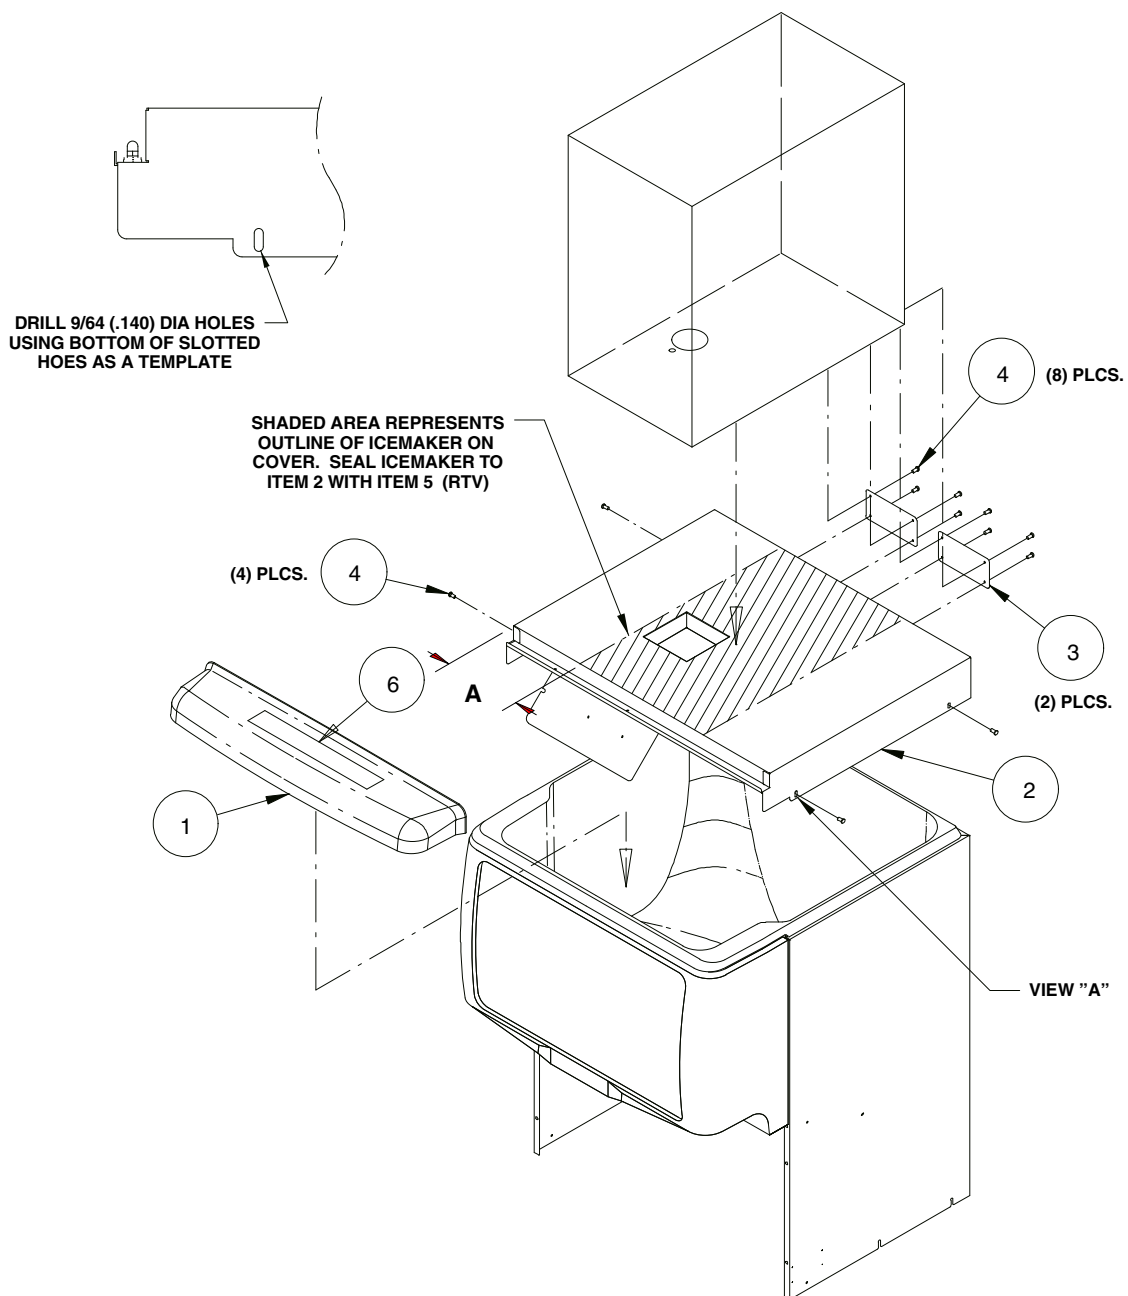
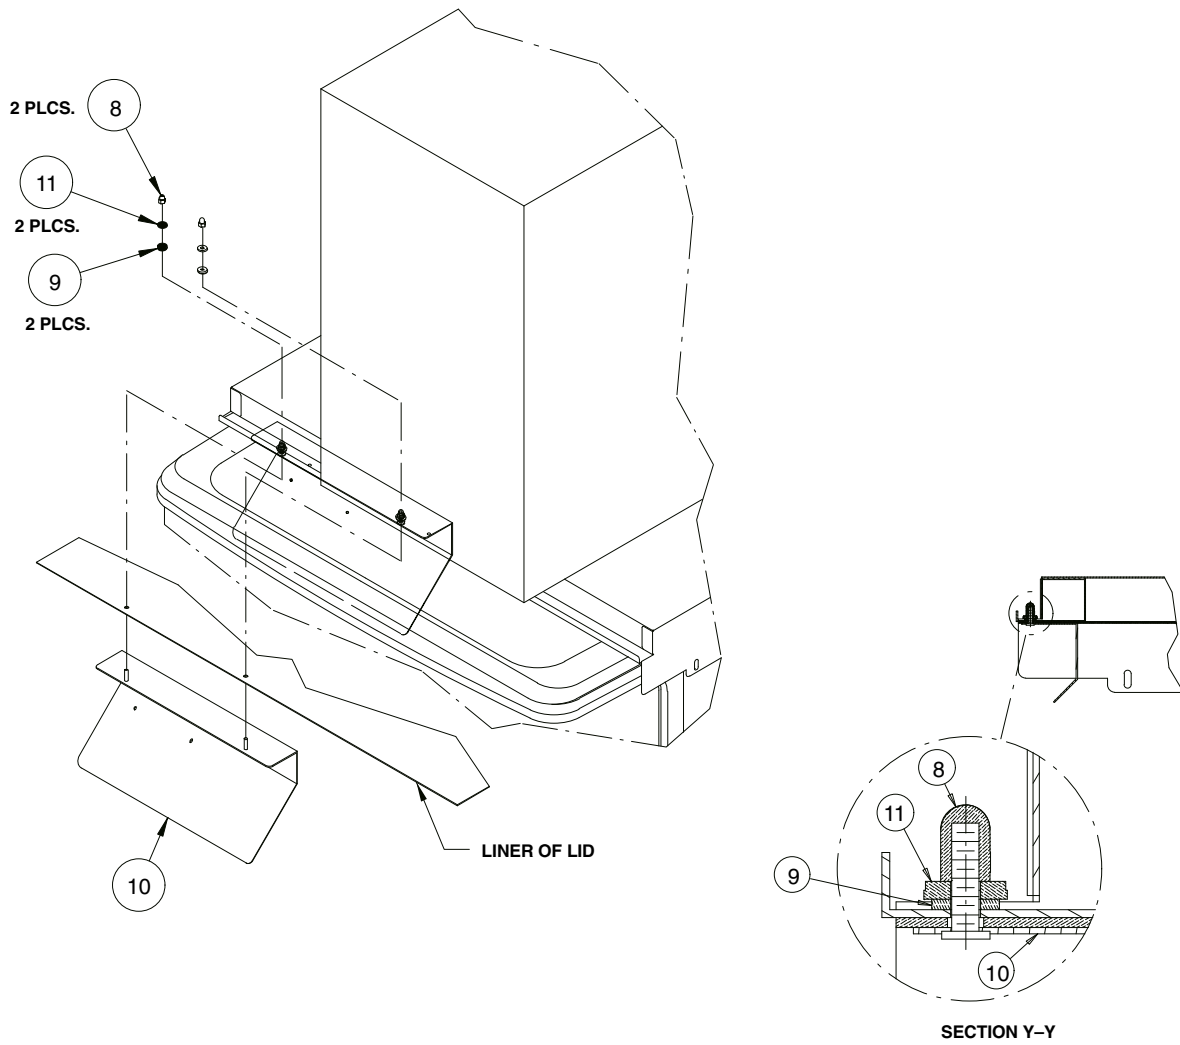

Figure 1.
Figure 2.
Perform the following procedure to install the adapter kit. Refer to Figure 1 and Figure 2 while performing this procedure.
6. Place (2) sealing washers over studs (item 9) and (2) flat washers (Item 11), then fasten in place with (2) plastic acorn nuts (item 8). (See Figure 2.)
8. Using the slotted holes in the lid as a template, drill four (4) 0.140” diameter (9/64”) holes at the bottom of the slots (see detail A). **Use extreme care not to drill into the hopper.** Fasten the lid to the dispenser with four (4) #8 sheet metal screws, two on each side.